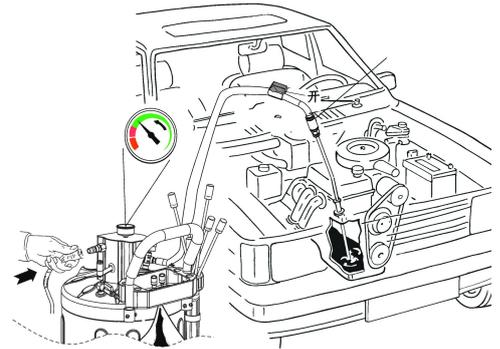

Fig.4
4. FIG.4 Turn on the ball valve for oil extraction.